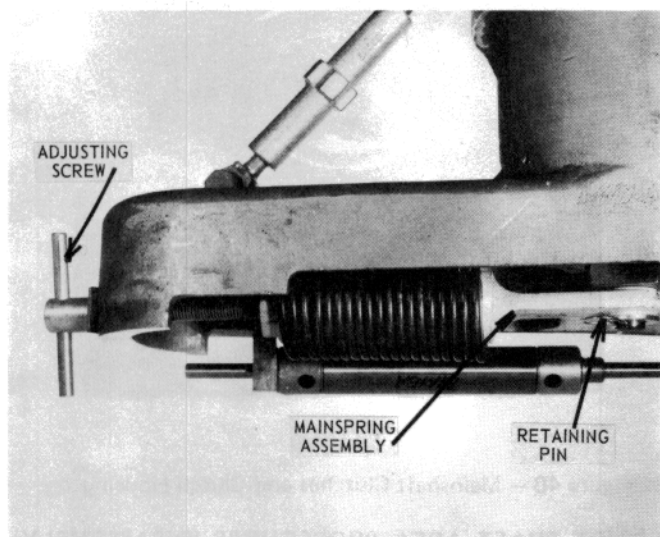

Figure 33 — Mainspring Assembly and Adjusting Screw
- 1.2.10 Release all tension from the mainspring by turning the adjusting screw counterclockwise until it has disengaged the mainspring assembly (see Figure 33). Remove the adjusting screw assembly, the retaining pin, and the mainspring assembly.